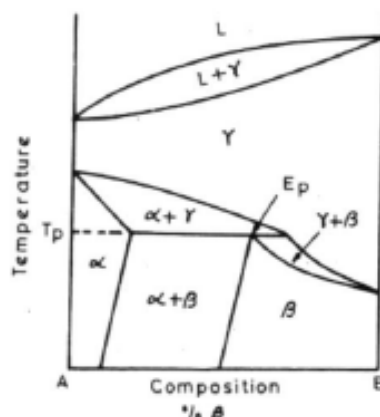

Fig.4.8 - Peritectoid diagram
- ▶ Fig. 4.8 shows a Peritectoid Diagram, which can be explained on lines similar to those for the eutectoid diagram (Refer section 4.12).